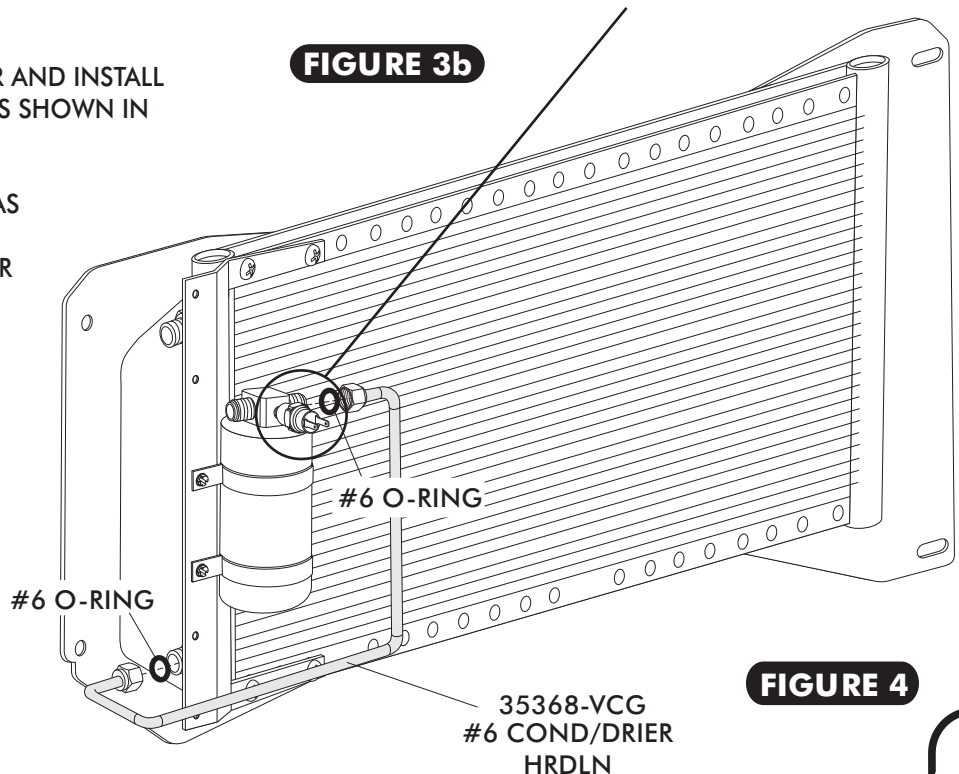

FIGURE 4
- LUBRICATE (2) #6 O-RINGS AS SHOWN IN FIGURE 3a, AND INSTALL THE #6 COND/DRIER HARDLINE AS SHOWN IN FIGURE 4 BELOW. TIGHTEN FITTING CONNECTIONS AS SHOWN IN FIGURE 3a ABOVE.